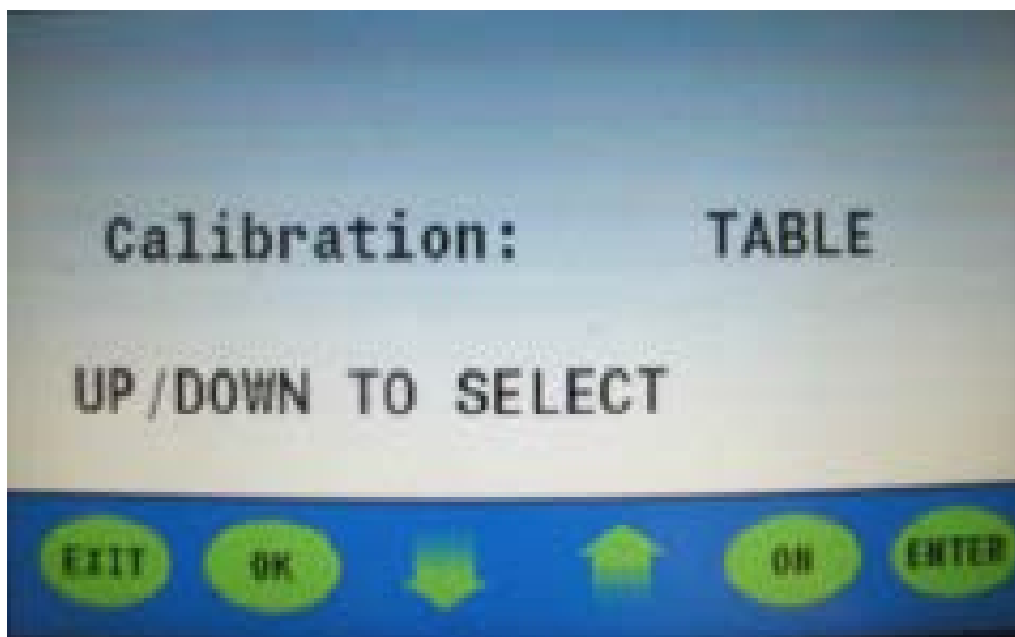

Figure 5
- 8.** Press the **up** or **down arrow** to set the last value in the number sequence, "0" to "8." Press the **Enter button**; the display will read: "Calibration: Table" (**figure 5**).